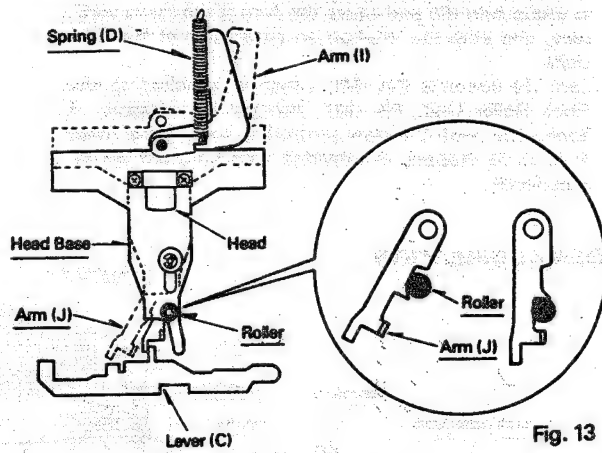

Fig. 13
2. The Head Base moves downward, as shown in Fig. 13, and is locked by Arm (J) and the Roller mounted on the Head Base. In F.F./REWIND and Ejection, Lever (C) moves left to disengage Arm (J) so that the Head Base is unlocked for return to its normal position by Spring (D).